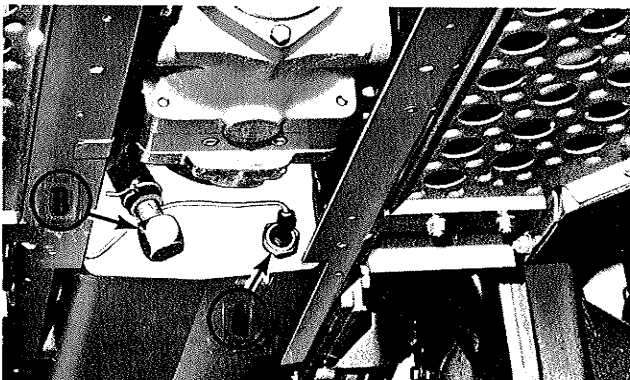

Figure 35. Front of transmission as seen from beneath the tractor with dust shield removed.
CHANGE THE TRANSMISSION OIL (FLUID): See figure 35. **DO NOT RUN THE ENGINE WITHOUT OIL IN THE TRANSMISSION.** The transmission case is divided into two compartments. Both the oil temperature sending unit (A) and the pipe fitting (B) on the front of the transmission must be removed to drain the transmission completely. Warm oil will drain best. The tractor should be operated at least 1/2 hour to warm the oil before draining the transmission. Proceed as follows:
2. Remove the wire from the oil temperature sending unit (A).
4. Remove the spring clamp and hose from the pipe fitting (B).